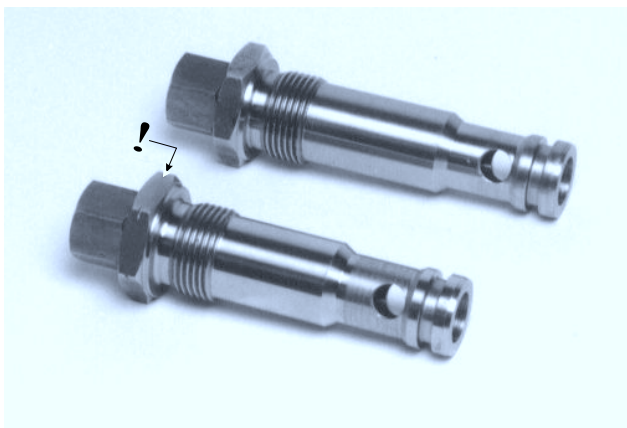

Fig.46: Oil pressure regulators
1. The lubricating oil pressure regulator (not equipped with a groove in the hexagon nut) (see Figure 46, Page 28) is fitted in the left-hand side of the pump and can be taken out with the help of a ring spanner or socket spanner 41, provided that the oil suction filter has been removed.